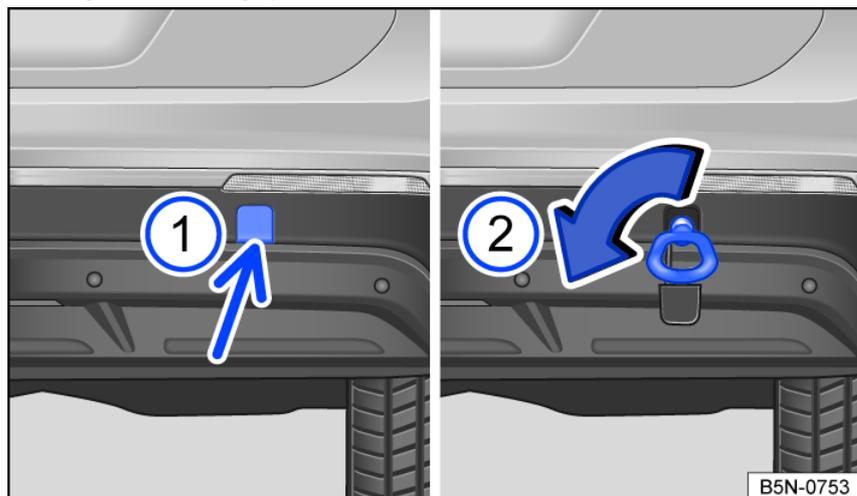

Fig. 196 In the right rear bumper: threaded towing eye.
① Cover in the bumper.
② Towing lug.
2. To release the lock on the cover, press on the lower section of the cover (arrow) *fig. 196* ①.
4. Rotate the towing eye counterclockwise and tighten as far as it will go to install it in the opening *fig. 196* ② ⇒ ⚠. Use a suitable object to tighten the towing eye completely and securely in the mount.